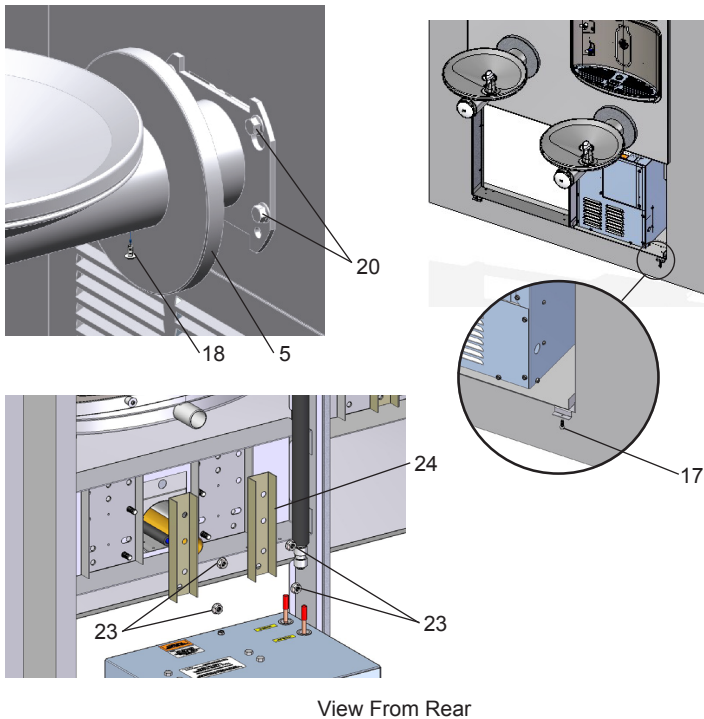

Figure 3 - Fountain Installation
8. Install fountains with (8) 5/16-18 HHMS & (8) 5/16-18 nuts (provided) (Fig. 3). Connect the 1/4" water lines from each fountain to the remaining openings on the tee at the remote chiller (cut lines to fit as needed).